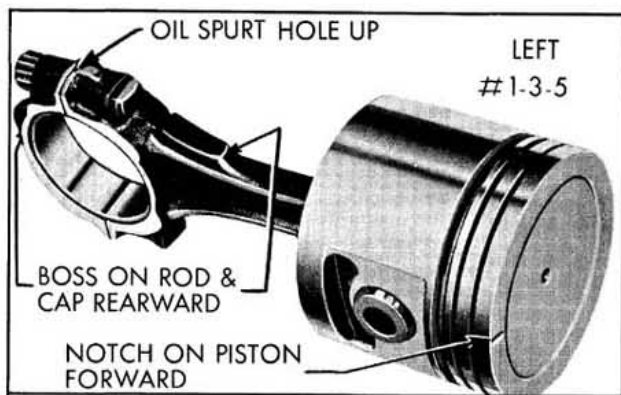

Fig. 3-30 Left Bank Piston and Rod Assembly
2. If the piston and rod assembly is to be installed in the left bank, the assembly must be made as shown in Fig. 3-30.
16. Install all other piston and rod assemblies in same manner. When piston and rod assemblies are properly installed, the oil spit holes in the connecting rods will be up, toward the camshaft, the rib on the edge of the rod cap will be on the same side as the conical boss on the connecting rod web and these marks, (rib and boss) will be toward the other connecting rod on the same crankpin. (Figs. 3-30 and 3-31)